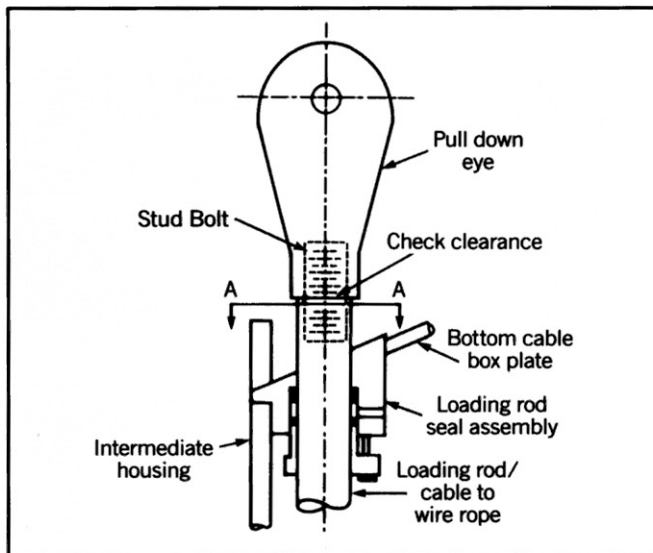
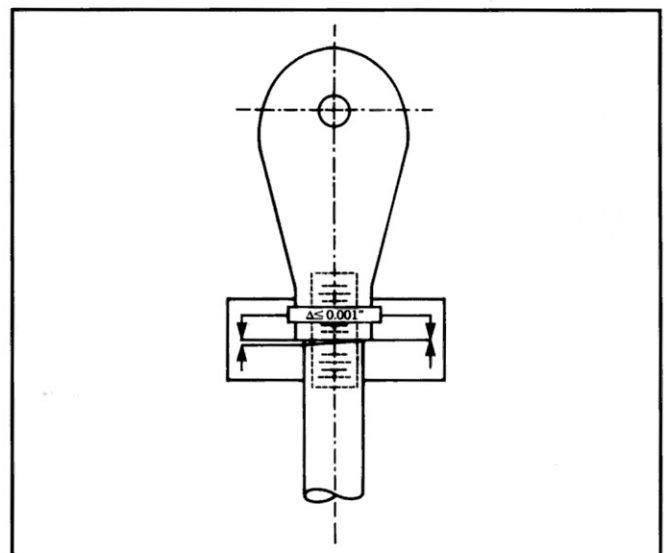

Figure 1 Pull down eye and loading rod assembly
Figure 2 Pull down eye loading rod.
1. Check to ensure the pull down eye is tight against the loading rod/cable. The side-to-side (contacting surface) difference should be equal to or less than 0.001" (see Figure 1 and Figure 2).
2. Check the threads, especially if the clearance in Item 1 is excessive, to ensure they are perpendicular to the pull down eye (see Figure 2).
If the stud is not perpendicular to the pull down eye, machine the pull down eye until the surfaces in Figure 2 are less than 0.001" difference. Retighten the stud.